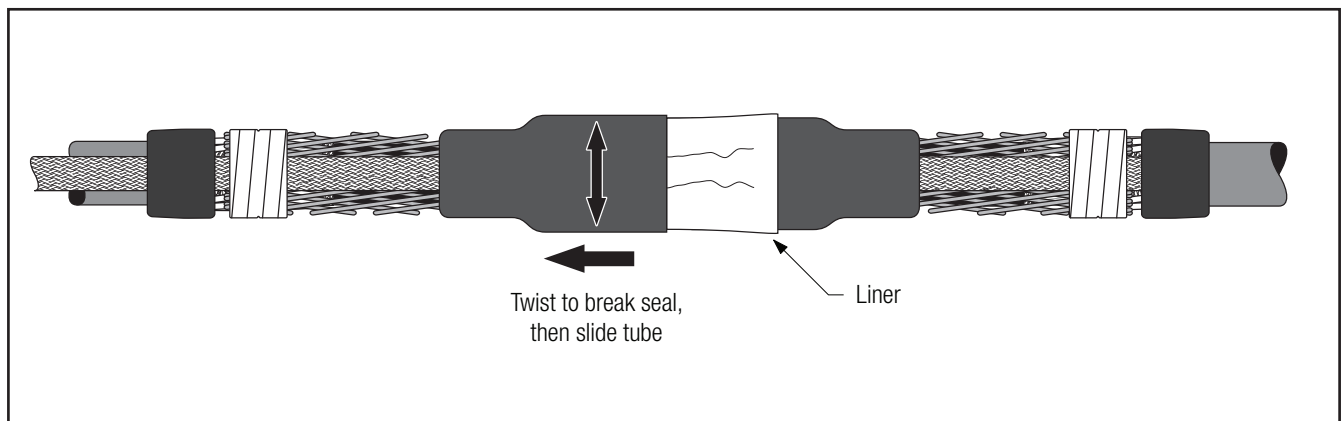

Figure 23
- 6.2 Install the rejacketing tube by twisting the tube (not the liner) from side to side to start the movement. Then slide and unroll the tube over the constant force springs and rubber mastic. (*Figure 23*). Repeat on other side.